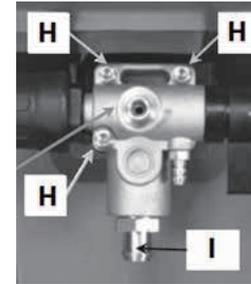

Fig.17
10.6 Cleaning the suction tube inlet port (Fig.17,18)
- b) Unscrew the three suction tube inlet port nuts (H).
- c) Disassemble the suction tube inlet port assembly (I).